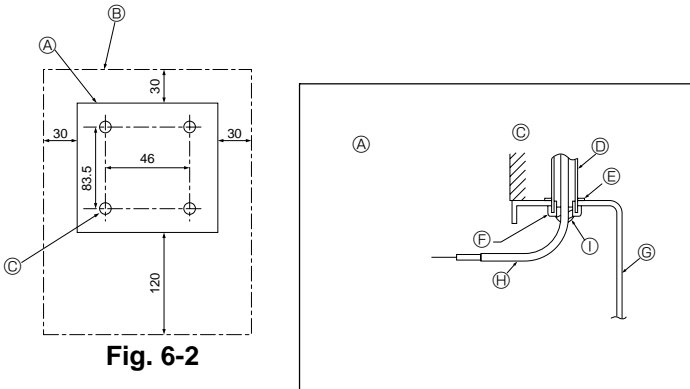

Fig. 6-2
(1) Select an installing position for the remote controller. (Fig. 6-2)
##### [Fig.6-2]